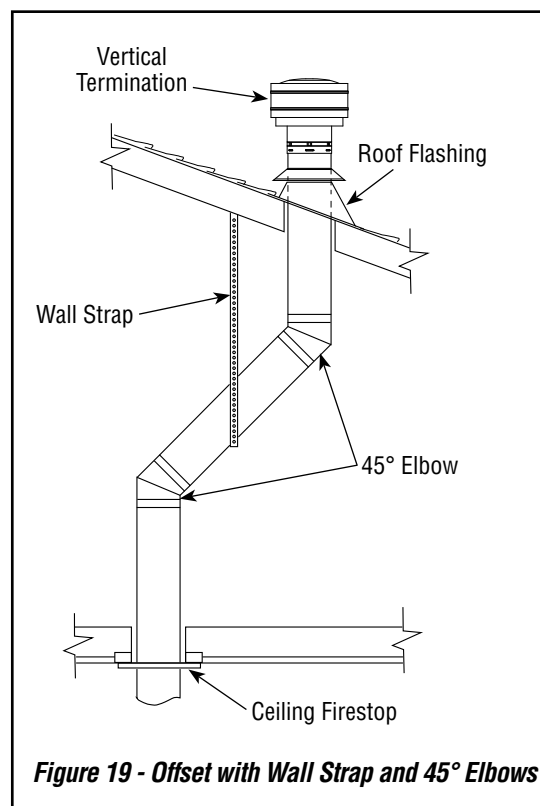

Figure 19 - Offset with Wall Strap and 45° Elbows
1. Determine route your vertical venting will take. If ceiling joists, roof rafters or other framing will obstruct venting system, consider an offset (see **Figure 19**) to avoid cutting load bearing members. **NOTE:** Pay special attention to these installation instructions for required clearances (air space) to combustibles when passing through ceilings, walls, roofs, enclosures, attic rafters, etc. Do not pack air spaces with insulation. Also note maximum vertical rise of venting system and any maximum horizontal offset limitations (see **Figures 17A**).
- NOTE:** If an offset is needed to avoid obstructions, you must support vent pipe every 3 feet. Use wall straps for this purpose (see **Figure 19, Page 21**). Whenever possible, use 45° elbows instead of 90° elbows. The 45° elbow offers less restriction to the flow of flue gases.
5. Place flashing over pipe section(s) extending through roof. Secure base of flashing to roof and framing with roofing nails. Be sure roofing material overlaps top edge of flashing as shown in **Figure 19, Page 21**. There must be a 1" clearance from vent pipe to combustible materials.